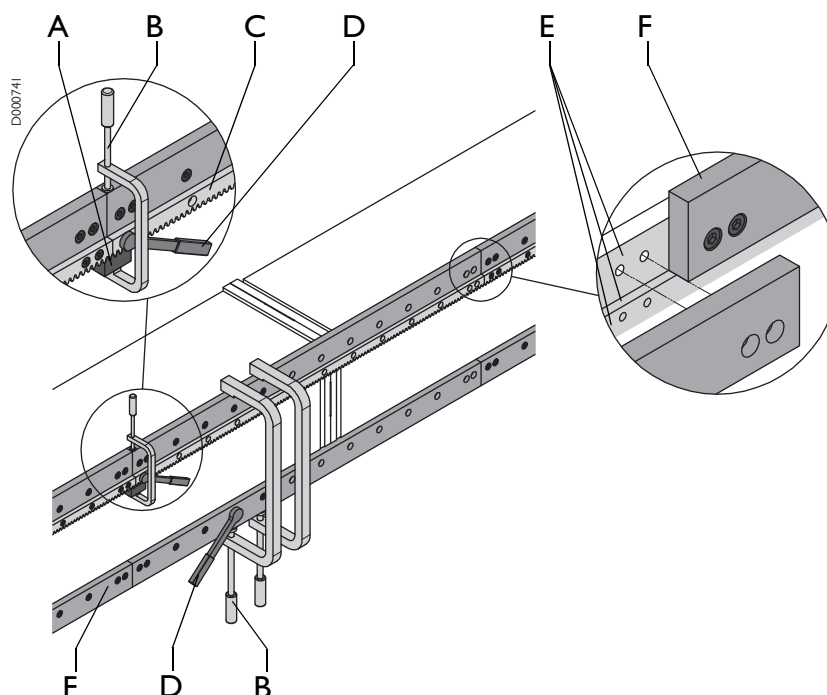

Fig. 8-8
*Guideway removal* The designations refer to Fig. 8-8,  73.
(See Fig. 8-8, 63 73)